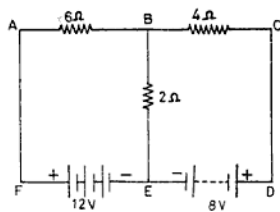

Fig. NE 9.25
- 9.25 Find the value and direction of current in each resistance of the circuit shown in Fig. NE 9.25. Assume the internal resistance of the batteries to be negligible.